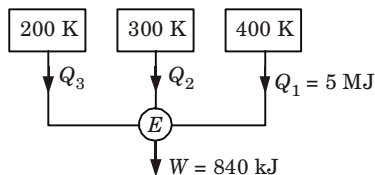

Fig. 7.
9. **Discuss exergy destruction. A reversible engine, as shown in Fig. 7, during a cycle of operations draws 5 MJ from the 400 K reservoir and does 840 kJ of work. Find the amount and direction of heat interaction with other reservoirs.**